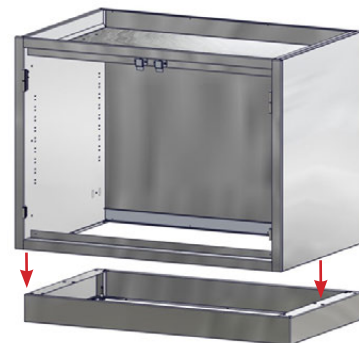

Fig. 8: Place Cabinet on Base
5. Place the cabinet carefully on the base (Fig. 8).